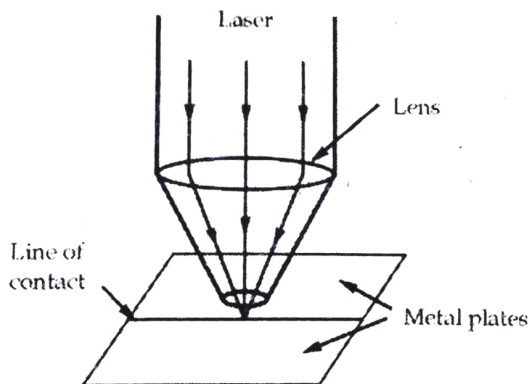

Fig. Q.28.1
- i) **Welding** : The two metal plates to be welded are held in contact at their edges as shown in Fig. Q.28.1 and a high power laser is focussed on the line of contact. The metal at the line of contact melts and solidifies on cooling which causes the two plates to stick together. As the laser can be focussed to a very sharp point, the heat affected area is very small. Hence laser welding does not cause distortion of the plates. Also, it is a contact - less procedure.